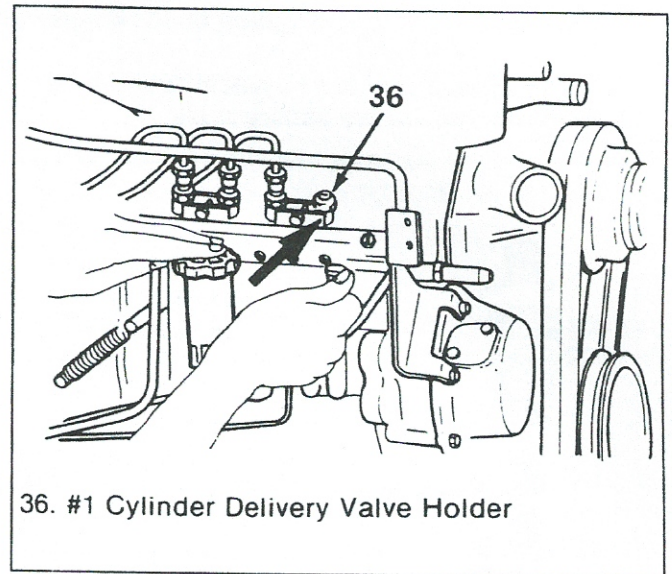

Figure 22. Timing the Injection Pump
5. Disconnect the fuel line from the #1 cylinder fuel injection line (figure 22).
6. Remove the delivery valve holder, spring and the delivery valve (figure 22).
8. Pump the fuel primer pump till fuel flows from the open top of the delivery valve holder. Continue to pump the primer pump and at the same time turn the injection pump housing in the opposite direction to crankshaft rotation (figure 22).